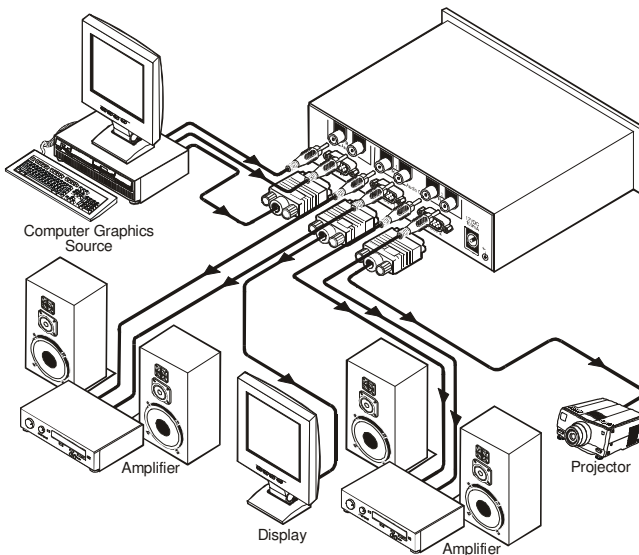

Figure 4: Connecting the VP-2xl 1:2 VGA Distributor
To connect the **VP-2xl**, as the example in Figure 4 illustrates:
3. Connect the 12V DC power adapter to the power socket and connect the adapter to the mains electricity (not illustrated in Figure 4).